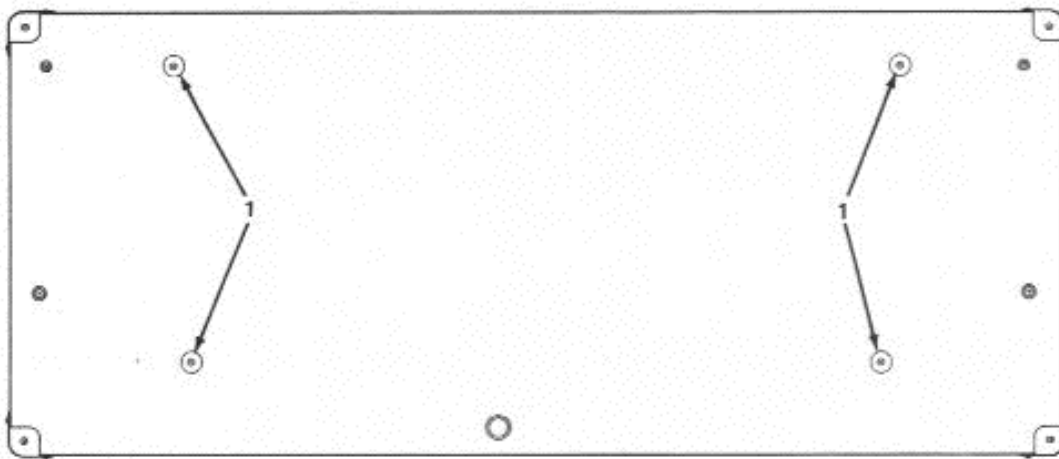

Figure 3-3. RHODES Suitcase Piano Top — Bottom View
d. Place Piano on its bottom surface and remove Keyboard Assembly by lifting out of Cabinet. Suitcase Piano Proceed as with a Stage Piano, again observing the CAUTION on the previous page, following Steps a, b, and c. In addition, since the bottom surface on the Suitcase Piano is of a thinner plywood than the Stage Piano, the four Glides (Figure 3-3, 1) must be removed as well. Proceed with Step d.